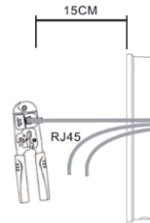

Figure 3-5
- B. Pass all the wires through the silicone plug in the middle of the bottom case, and reserve a length of 15~20CM for all wires, as shown in Figure 3-5.